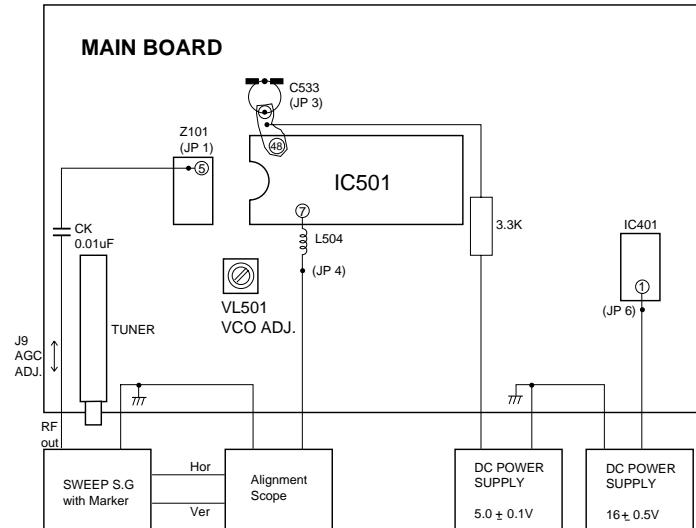

Fig. 1: Connection Diagram of Equipment for VCO Adjustment
1. Connect the measuring equipment to the TV as shown in Fig.1